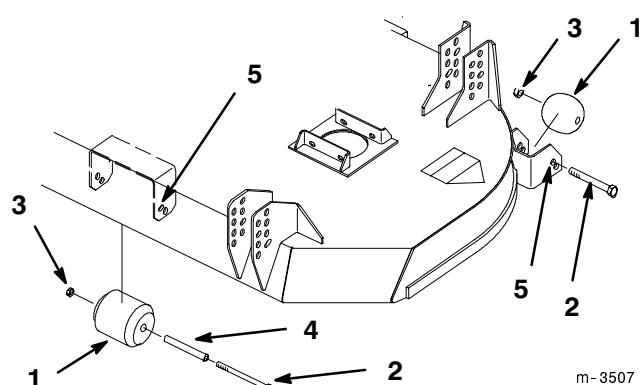

Figure 18
2. Remove the locknut and bolt to change hole location (Fig. 18).
3. Select the proper hole position for the height-of-cut to be used (Fig. 18).